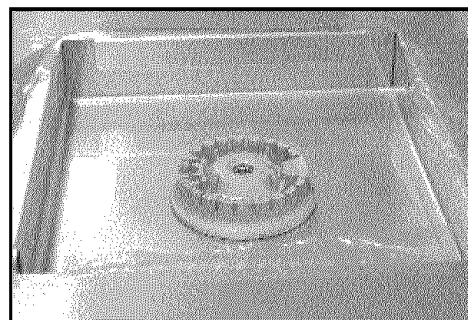

Fig. 22a
1. Install burner into side burner tray lining up the three cutouts on the underside of the burner. (See Fig. 22a)